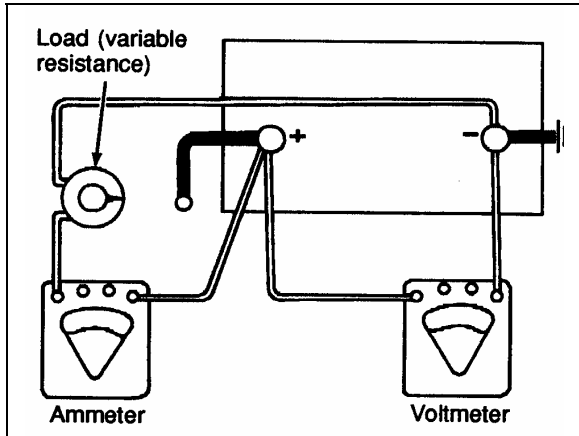

FIGURE 15: LOAD TEST 06064
The test indicator in the battery cover is to be used with accepted diagnostic procedures only. It must not be used to determine if the battery is good or bad, charged or discharged. The test indicator is a built-in hydrometer in one cell that provides visual information for battery testing (Fig. 15).
1. Connect a voltmeter, ammeter, and a variable load resistance as illustrated in figure 15.